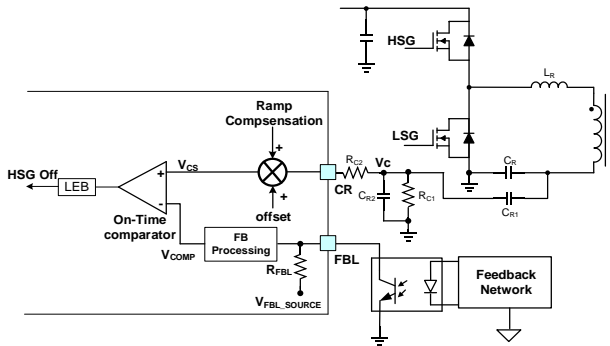

Figure 25: LLC Current Mode Control Block Diagram
Figure 25 shows the control block diagram of the half-bridge (HB) LLC. The on-time comparator determines the HSG on time by comparing the voltage derived from the current sense (CR) with V_{COMP} . V_{COMP} is generated from the feedback voltage on an optocoupler (FBL).